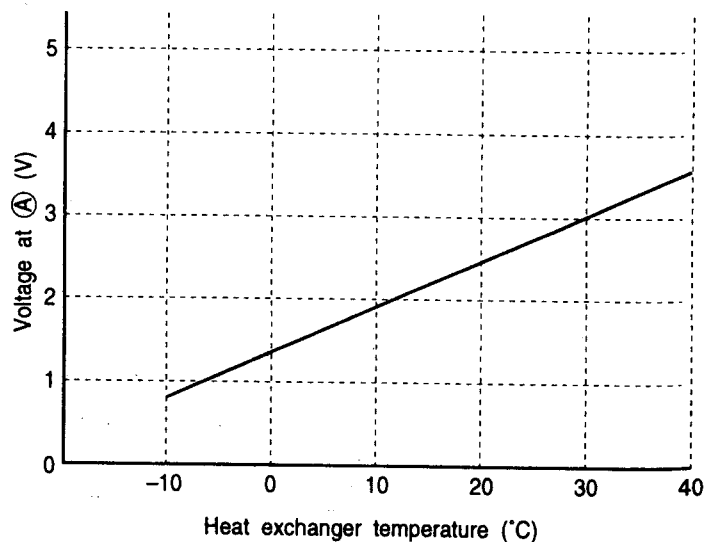

Fig. 7-2
- (1) Preheating.
- (2) Low-temperature defrosting during cooling and dehumidifying operation.
- (3) Detection of the reversing valve non-operation or heat exchanger temperature thermistor open.
The voltage at (A) depends on the heat exchanger temperature as shown in Fig. 7-2.